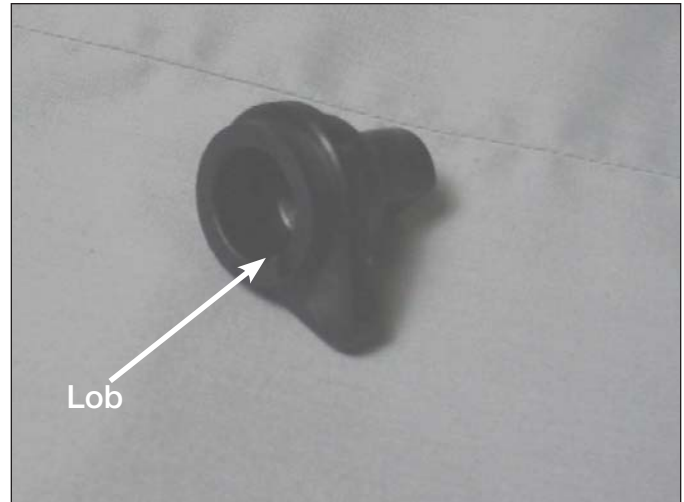

Figure 38.
- Place the neutral position pointer lob, see Figure 38, into the main movable contact hub located in the lower front center of the drive assembly panel. See Figure 39.